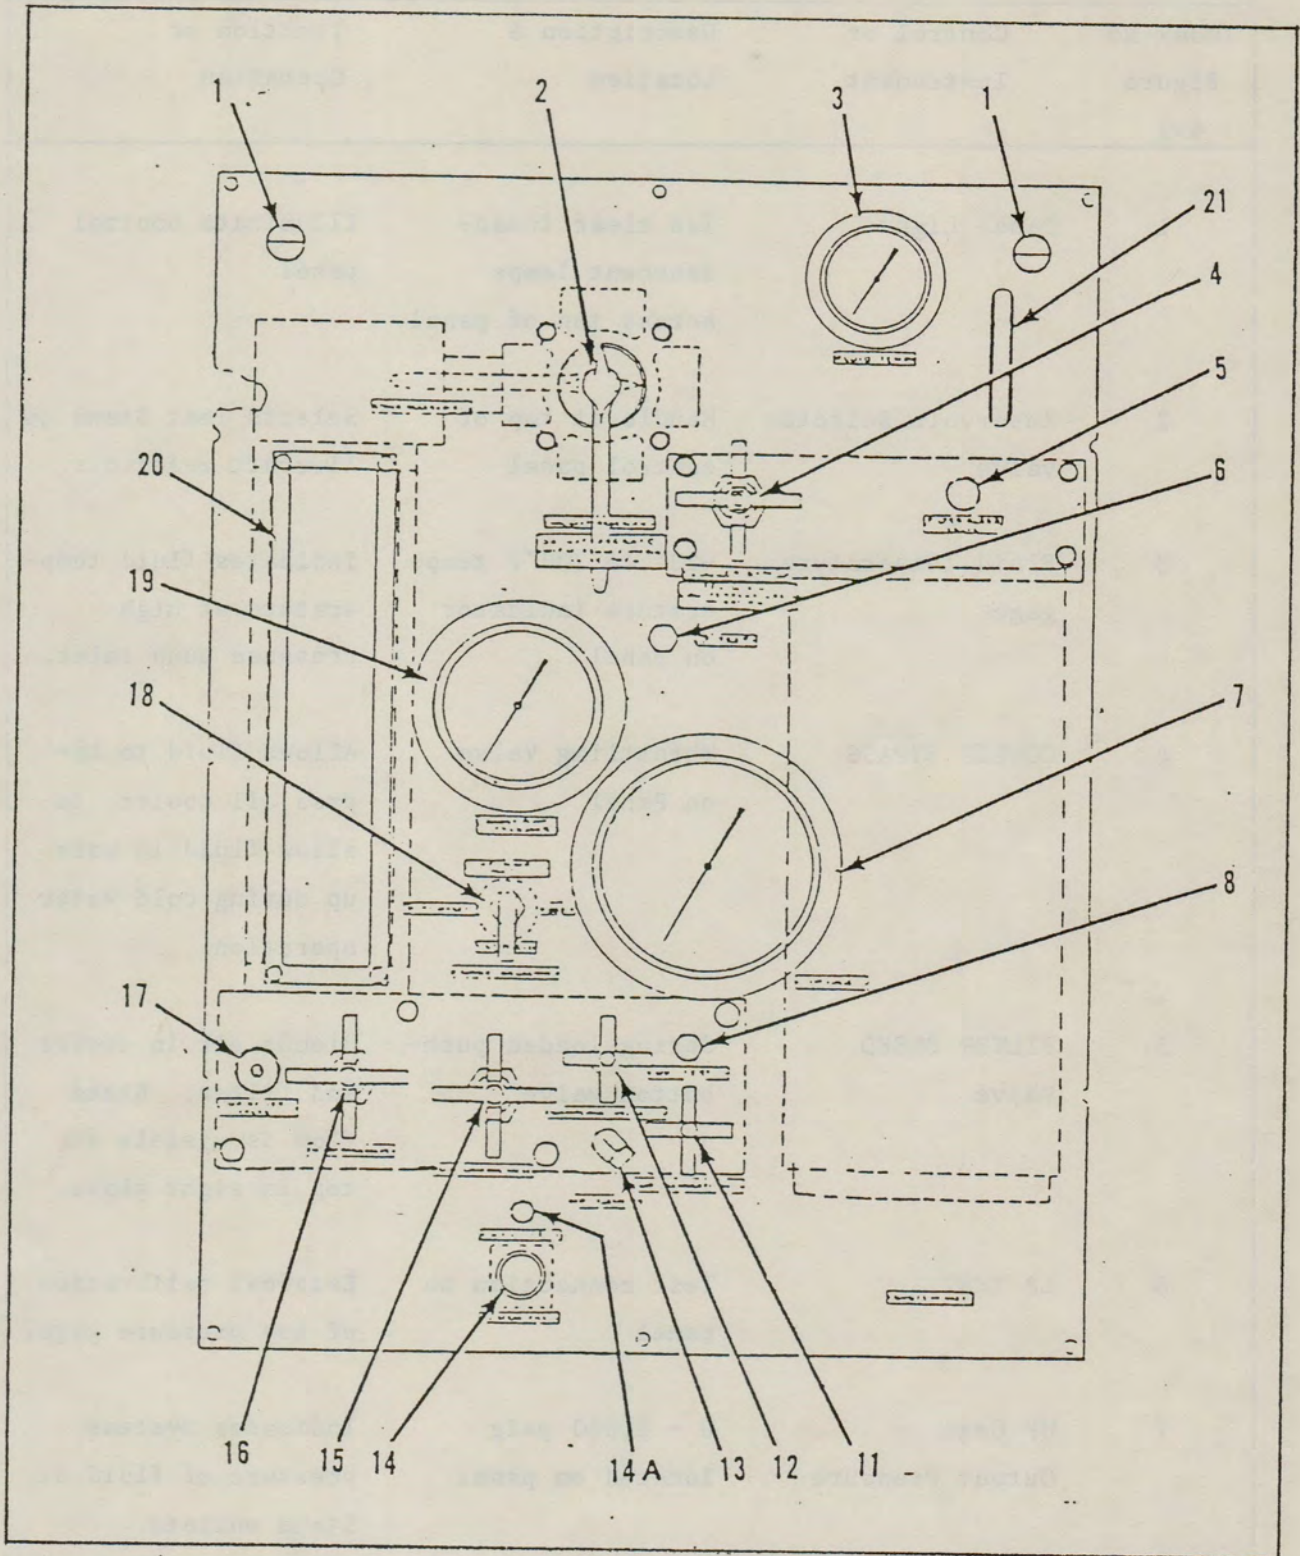

Figure 4-2. Hydraulic Panel Controls
f. Push FILL PUMP ON push button (14, Figure 4-2)
g. Press and hold FILTER BLEED valve (5) until system is free of air (bubbles) as shown on sight gage.
h. Release FILL PUMP ON pushbutton (14) when L.P. Gage indicates approximately 80 psi.
Do not impose a load of high pressure pumps when starting engine. HP BYPASS VALVE (16, Figure 4-2) shall be open at starting.
f. Press FILTER BLEED valve (5, Figure 4-2) to free system of trapped air.
Any fluid bled from systems must be replaced using fill pump and fill valve. Monitor system pressure on compound gage (21, Figure 4-1) with gage selector valve (18, Figure 4-2)
- b. Open FLOW CONTROL valve (15, Figure 4-2).
- c. Slowly close HP BYPASS valve (16).
e. Observe output pressure HP GAGE (7), for reading of 100 to 500 psig.
f. Check condition of flow in flowmeter (20). If air is still present, bleed system per preceeding step d.